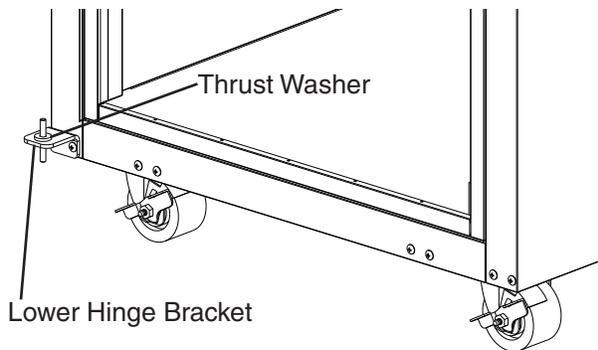

Fig. 24
9) Make sure the thrust washer is in place, then mount the door onto the lower hinge bracket (nylon bearing over lower hinge bracket pin). See Fig. 24.